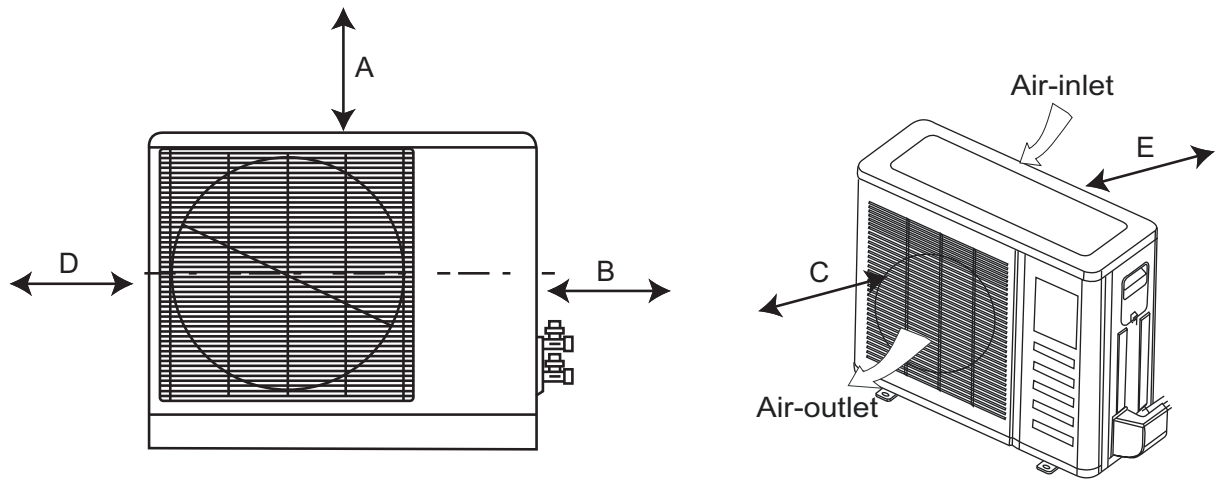

Fig. 9 — Clearances
- A location with appropriate clearances as outlined (See Fig. 9 — on page 13).